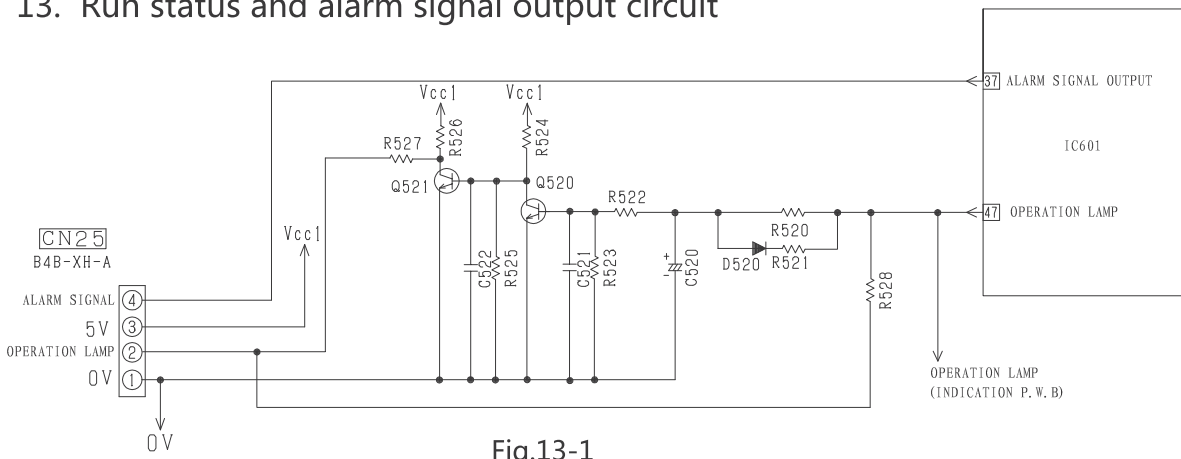

Fig.13-1
Fig.13-1 is the control circuit of run status and signal output in main PWB. The pin ② of CN25 is used to show run status and the pin ④ of CN25 is used to warn people when failure occurrence. If customer want to use this function, need to use the adapter (sold separately) to achieve it. the adapter is optional and the detail circuit refer to following circuit.